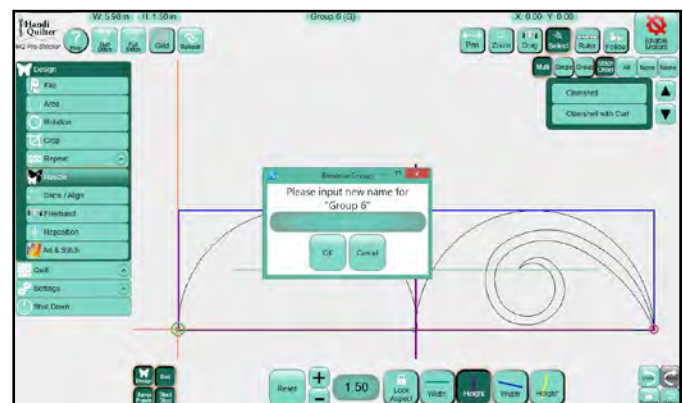

Figure 4.32
Choose **Name** to enter a descriptive name for the group. Use the keyboard that pops up to enter a name; then choose **OK** to save the name or **Cancel** to close the screen. (*Figure 4.32*) If the keyboard opens on top of the dialog box for entering the name, move it to a new place on the screen by touching the top area of the box and dragging. Alternately you can drag the name dialog box to a new area on the screen in the same way. Close the on-screen keyboard by touching the close (X) button in the upper-right corner.